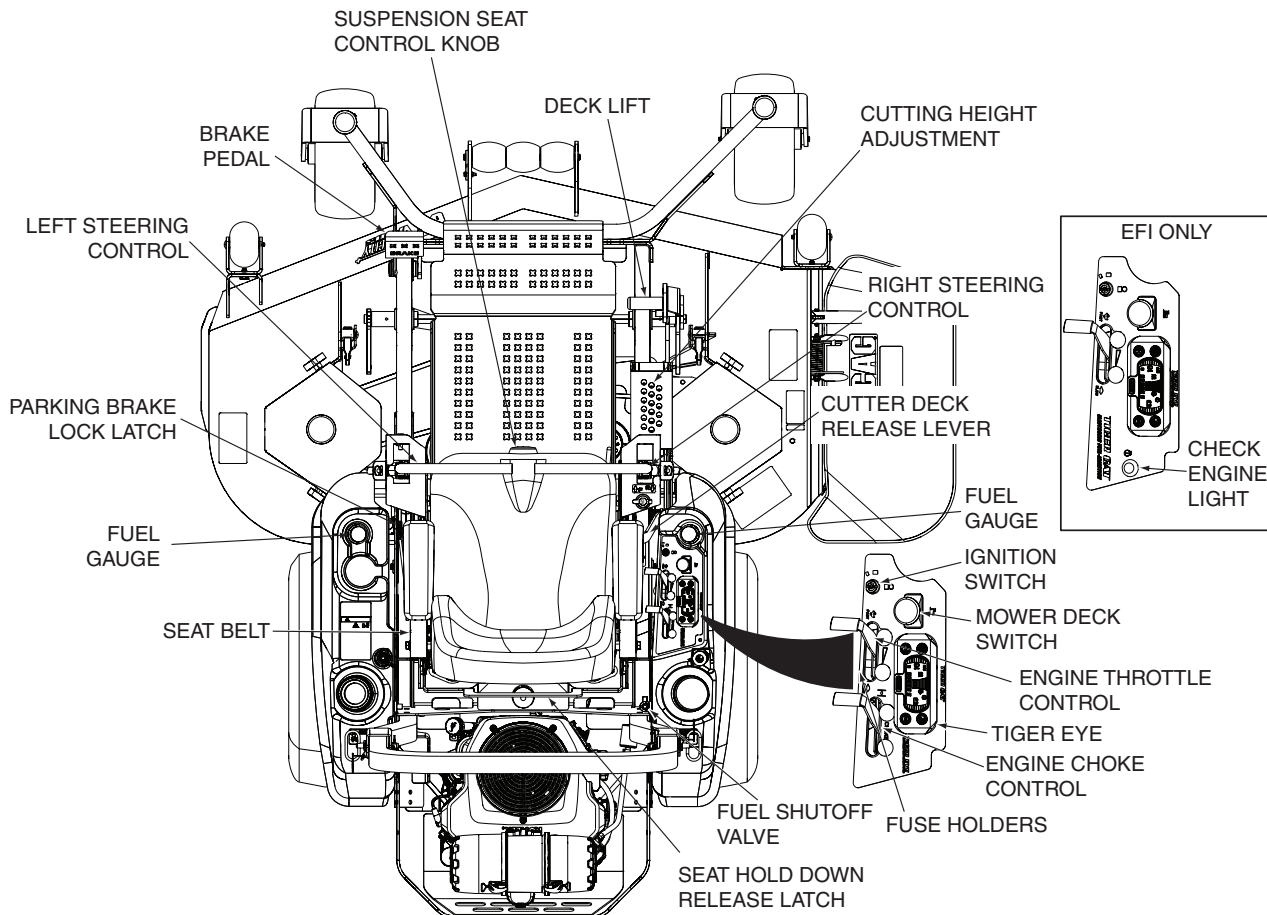
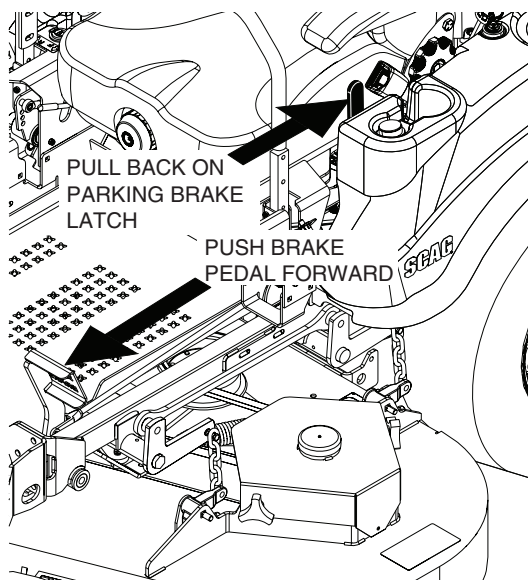
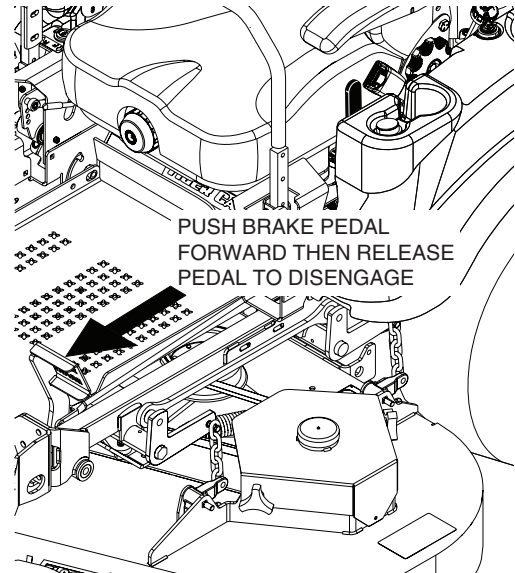

Figure 4-2. Controls and Instruments
Figure 4-3. Engaging Parking Brake
Figure 4-4. Releasing the Parking Brake
12. **Fuse Holders (Figure 4-2).** Two 20-amp fuses protect the mower's electrical system. To replace fuses, pull fuse out of the socket and install a new fuse.
1. **Ignition Switch (Figure 4-2).** The ignition switch is used to start the engine and has three positions; OFF, ON, and START.
2. **Mower Deck Switch (Figure 4-2).** Used to engage and disengage the mower drive system. Pulling up on the switch will engage the deck drive. Pushing down on the switch will disengage the deck drive.
3. **Engine Choke Control (Figure 4-2).** Used to start a cold engine.
4. **Engine Throttle Control (Figure 4-2).** Used to control the engine speed. Pushing the lever forward increases engine speed. Pulling the lever back decreases engine speed. Full back position is the IDLE position. Full forward is the cutting position.
5. **Left Steering Control (Figure 4-2).** Used to control the mower's left wheel when traveling forward or reverse.
6. **Right Steering Control (Figure 4-2).** Used to control the mower's right wheel when traveling forward or reverse.
8. **Parking Brake Lock Latch (Figure 4-2).** Used to lock the parking brake in the engaged position. Fully depress the brake pedal and pull the parking brake lock latch back to lock the parking brake in the engaged position. See Figure 4-3. Fully depress the brake pedal forward to disengage the parking brake lock latch, then release the brake pedal to disengage the brake. See Figure 4-4.
9. **Fuel Tank Gauge (Figure 4-2).** Indicates the amount of fuel in the fuel tank.
11. **Deck Lift Foot Lever (Figure 4-2).** Used to raise and lower the cutter deck. Push full forward to lock in the transport position.
12. **Cutting Height Adjustment (Figure 4-2).** Used to set the cutter deck at the desired cutting height.
13. **Deck Release Lever (Figure 4-2).** Used to lock the cutter deck in the transport position. Push the foot pedal forward and pull back on the release lever to release the cutter deck for normal mowing.
14. **Seat Suspension Control Knob (Figure 4-2).** Used to select the optimum suspension rate based on the operator.
15. **Seat Belt (Figure 4-2).** Used to secure the operator. Seat belt must be worn at all times when the ROPS is in the upright and locked position.
16. **Seat Hold Down Release Latch (Figure 4-2).** Located behind the seat. Used to secure the seat in the operator's position. Release the latch to gain access under the seat.
17. **Fuel Switching Valve (Figure 4-2).** Located on the right side of the machine. Used to shut off fuel supply to the engine and change fuel supply between the fuel tanks. Rotate the valve counter clockwise to supply fuel from the tank on the left side only. Rotate the valve clockwise to supply fuel from the tank on the right side only.
Do not travel forward over a curb. The mower will hang up on the curb. Raise the deck and travel backwards over the curb at a 45 degree angle. (See Figure 4-2 items 11-13 for cutter deck raising description.)